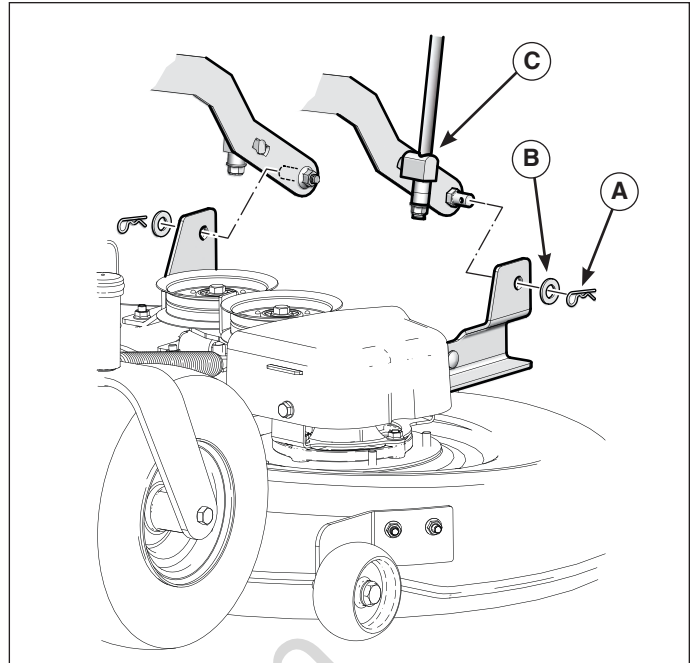

Figure 20. Rear Lift Arms
9. Remove the hair pin clips (A, Figure 20) and washers (B) that secure the rear lift arms (C). Separate the rear lift arms from the mower deck.
3. Slide the mower deck backward and connect the rear lift arms (C, Figure 20) to the mower deck. Secure with washers (B) and hair pin clips (A).